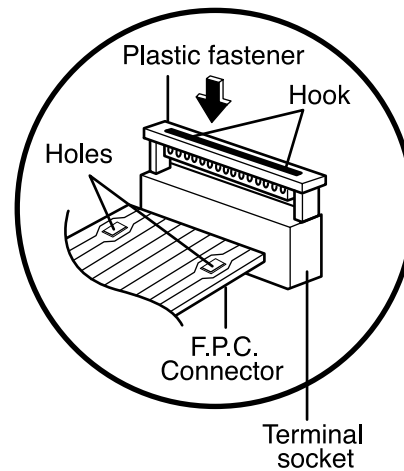

Figure 6
Follow the steps below as illustrated in Figures 6 and 7 to insert the F.P.C. connector.
- (1) Insert the F.P.C. connector into the terminal socket securely.
- (2) Hold the plastic fastener with thumb and forefinger of the other hand, and push it slowly into the terminal socket. (Figure 6)
- (3) Lock the plastic fastener into the hook of the terminal socket securely.